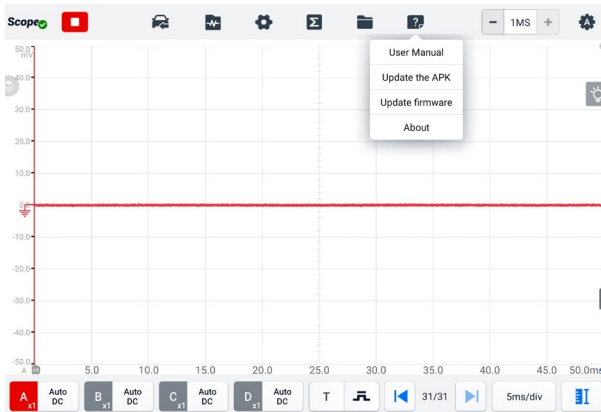

Figure 3-2 Help Screen
1. Tap the **Help** button on the upper toolbar of the screen. A dropdown menu displays. (See Figure 3-2 Help Screen)